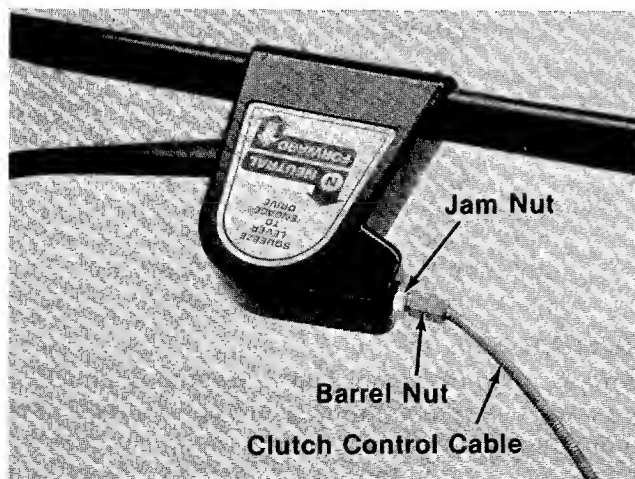

FIGURE 18.
1. To increase belt tension, loosen jam nut and back off two or three threads. Thread the barrel nut on end of control cable outward two or three threads. Retighten jam nut. See figure 18.
2. To decrease belt tension, loosen jam nut and back off two or three threads. Thread the barrel nut on end of control cable inward two or three threads. Retighten jam nut. See figure 18.